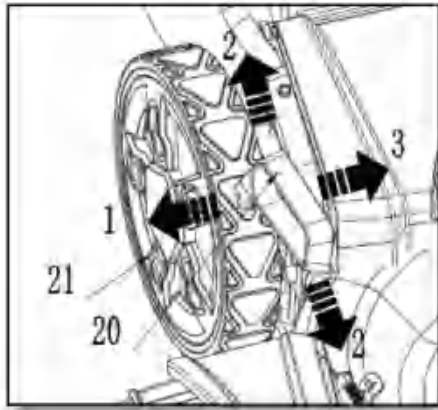

Fig. 18
1. Set the cutting height adjustment lever (20) higher than the second lowest position (Fig. 18).
1. Pull the lever for cutting height adjustment (20) towards the rear wheel (21) (Fig. 18, step 1), then move it forward or backward to the desired cutting height (Fig. 18, step 2).
2. Release the lever (20) and ensure it engages into place properly (Fig. 18, step 3).